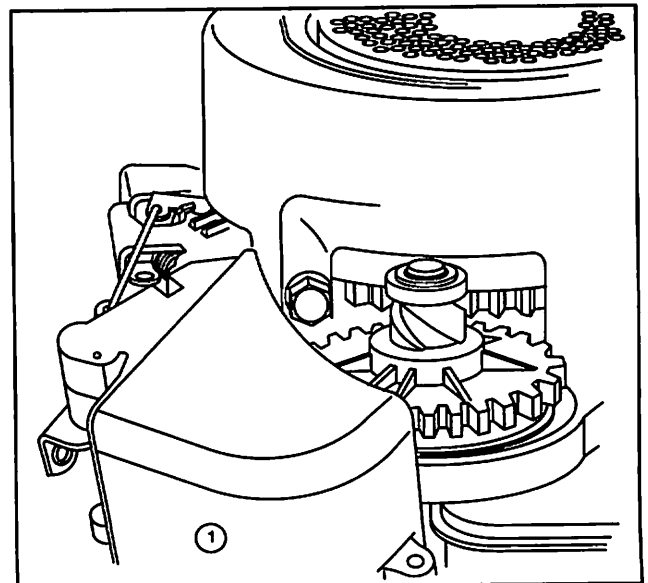

Fig. 118
- Remove two switch cover screws. On System 4® engines, move cover (1) as shown in Fig. 118. Handle with care to prevent damage to lever caused by link when moving switch cover.